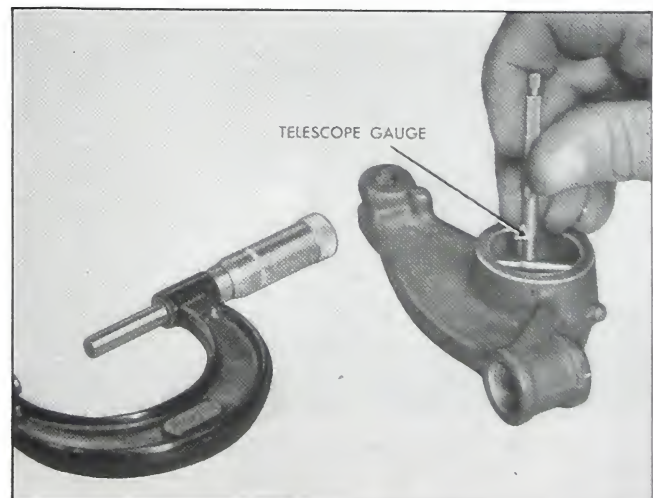

Fig. 1-2. Gauging small bore with telescope gauge and micrometer
3. Telescoping inside gauges, while not quite as accurate as dial bore gauges, can be used satisfactorily in conjunction with outside micrometers to gauge small bores. A set of 3 telescoping gauges can be purchased to gauge all bores from $\frac{1}{2}$ " to 2". They are comparatively cheap. Fig. 1-2.